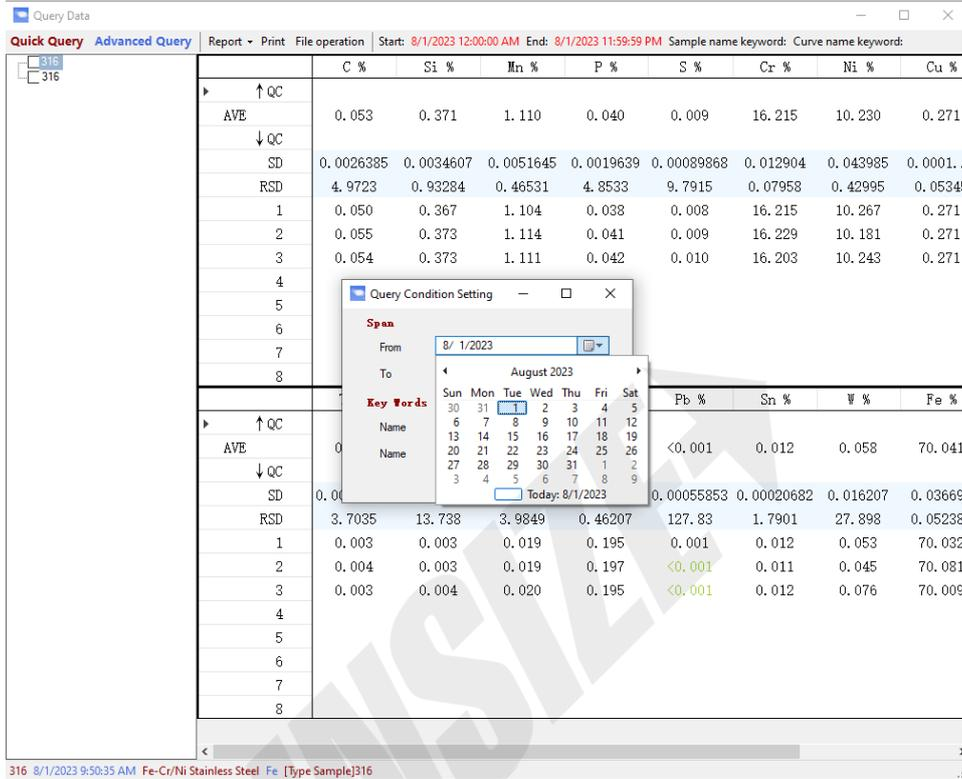

Figure 5-4 Advanced query
Step 2 Click " Quick Query", which means the data saved today, and "Advanced Query" can query historical data according to time. After selecting the time and corresponding data, you can click Print, and the Excel report will pop up automatically, as shown in Figure 5-4: